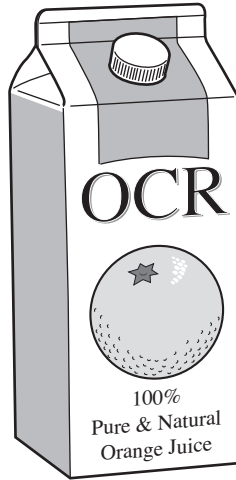

Fig. 5
Fig. 5 shows a drinks carton.
(a) Give **four** design requirements for the drinks carton shown in Fig. 5. Justify each requirement.
- (e) (i) State a **suitable specific material** for the drinks carton shown in Fig. 5.
- (ii) Describe, in detail, how the drinks cartons shown in Fig. 5 would be manufactured as a batch of 500 000.